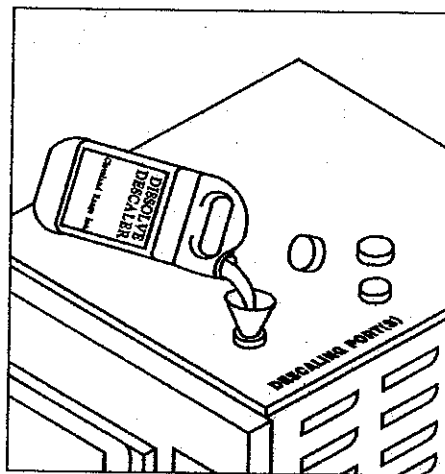

Figure 6-1 Descaler inlets
7. While the unit is filling with water, remove the descaling port plug(s) located at the top of the unit (See Figure 6-1), and add 1 gallon of *DISSOLVE*[®] descaler solution (P/N 106174) to each port.